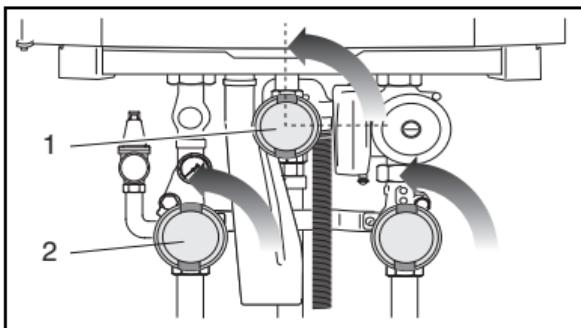

Fig. 3 Opening gas- and isolating valves
- Slowly open the gas valve by pushing on the gas valve and turning it $\frac{1}{4}$ rotation in an counterclockwise direction (fig. 3, pos. 1). The gas valve is open when it is in its vertical position.
- Open the pump group isolating valves (fig. 3, pos. 2).